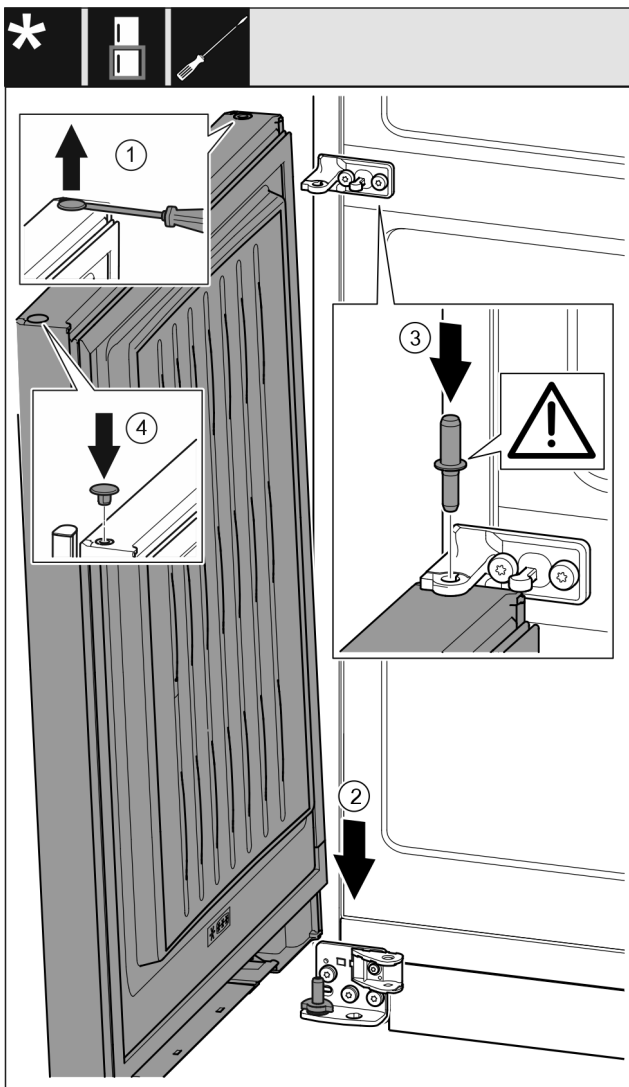

Fig. 39
- ▶ Carefully lift the plug Fig. 39 (1) with a slotted screwdriver and pull it out.
- ▶ Fit the door Fig. 39 (2) onto the lower bearing pin from the top.
- ▶ Insert the center bearing bolt Fig. 39 (3) through the center swap bearing block into the bottom door. In the process, make sure that the latching cam shows towards the rear.
- ▶ Reinsert the plug Fig. 39 (4) on the other side of the door.